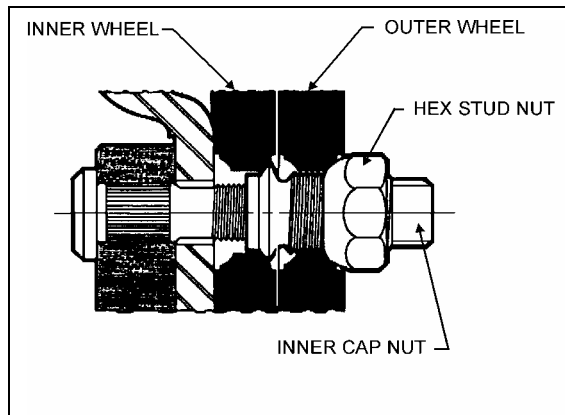

FIGURE 3: DUAL WHEEL INSTALLATION
2. Screw in the inner cap nuts (Fig. 3), so that wheel will position itself concentrically with hub. Refer to Figure 2 for sequence;
With inner wheel installed, tighten the hex stud nuts (Fig. 3) using the single wheel installation procedure described previously.
1. Loosen a hex stud nut three turns (Fig. 3);